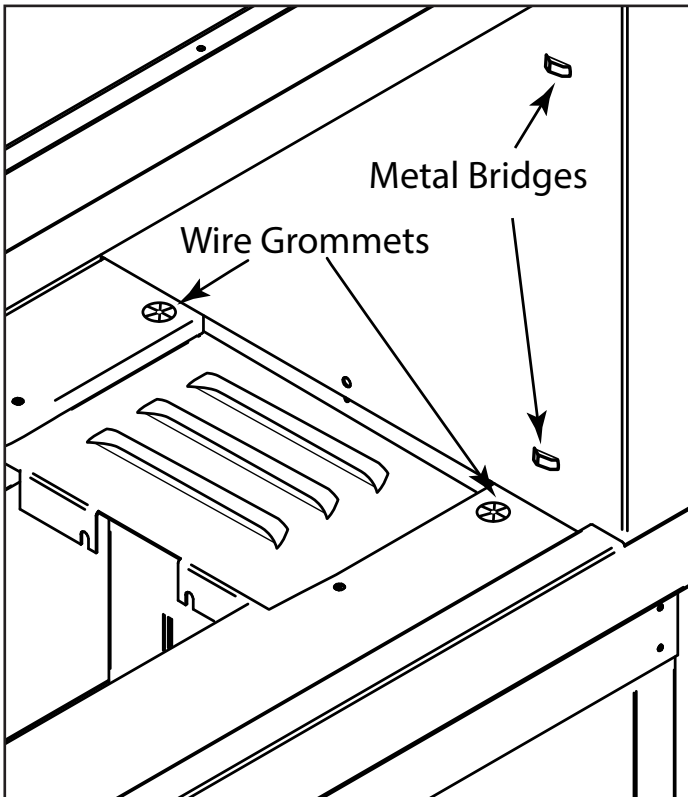

Figure 17 - Locating wire grommets
Step 3: Locate the wire grommets inside the firebox. See Figure 17. Directly above them will be a series of metal bridges to install the glass panel clips. Remove the glass panel clips from the glass panel packaging. **CAUTION:** The metal clips may have sharp edges, handle with care.